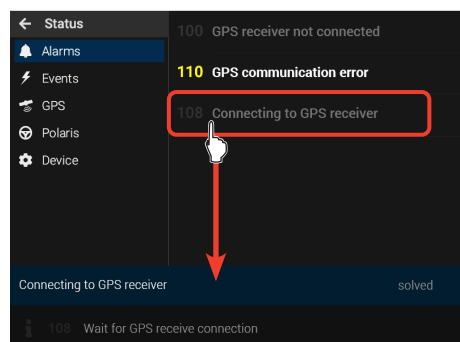

Fig. 115
- Any deactivated notifications are gray (Fig. 115): when selected, VT indicates that the alarm is solved.